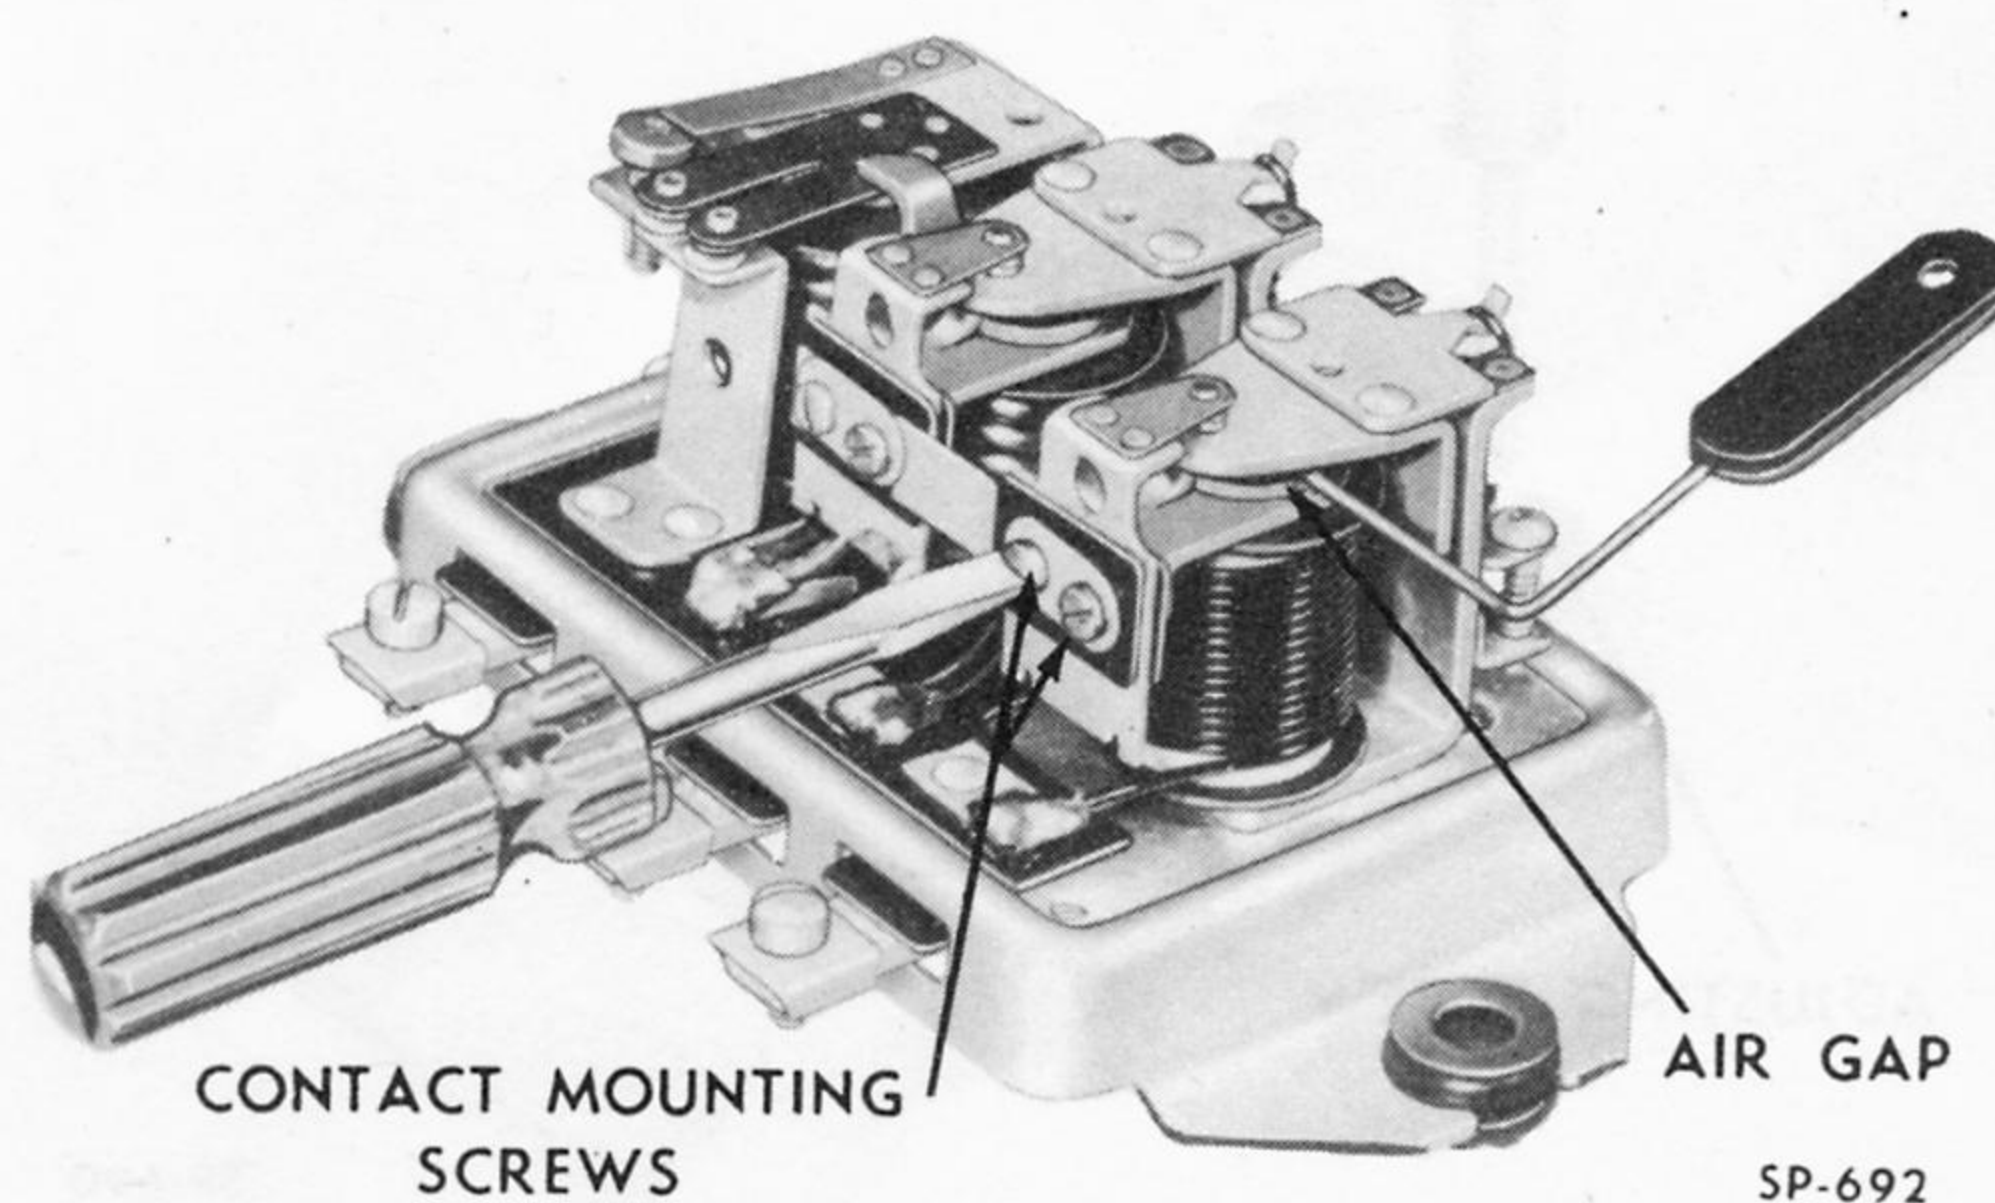

Fig. 405—Adjusting Kaiser Voltage Regulator Air Gap
(1) **Relay Air Gap.** To check, push the armature down to the core and release until the contact points just touch. Then measure the air gap (Fig. 405). The gap should be .075 inch. To adjust loosen the contact mounting screws and move the mounting as required. Recheck after tightening the screws.